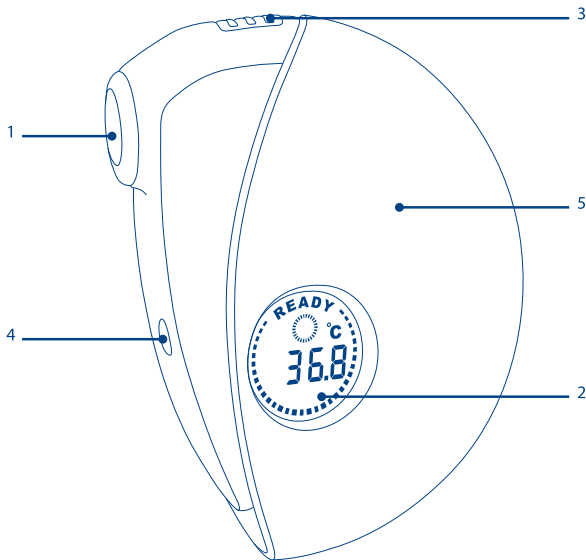

Fig.1
- 3) Open the thermometer by turning the cover (fig. 1 - no. 5). The thermometer goes on automatically. A blue ray appears which helps ensure correct positioning of the probe when taking the measurement. In fact, this ray indicates the exact point where the reading will be taken. Wait until the "READY" message appears before taking the reading.
- 4) Position the thermometer's detector at a distance of not more than 10 cm (4 inch) and not less than 0.5 cm (0.2 inch) from the forehead. Press the "Measurement" button (fig. 1 - no. 3) and explore the entire temple area. The best position is above the left side of the left eyebrow or above the right side of the right eyebrow, just under the hairline.
The memory function records 8 readings and remembers them for 64 hours. The last reading performed before the thermometer is turned off is recorded to memory. To use the memory function, turn the protective cover (fig. 1 - no. 5), press the “M” button (lo-
cated under the probe, fig. 1 - no. 4) and release it. The display alternates the following information four times: